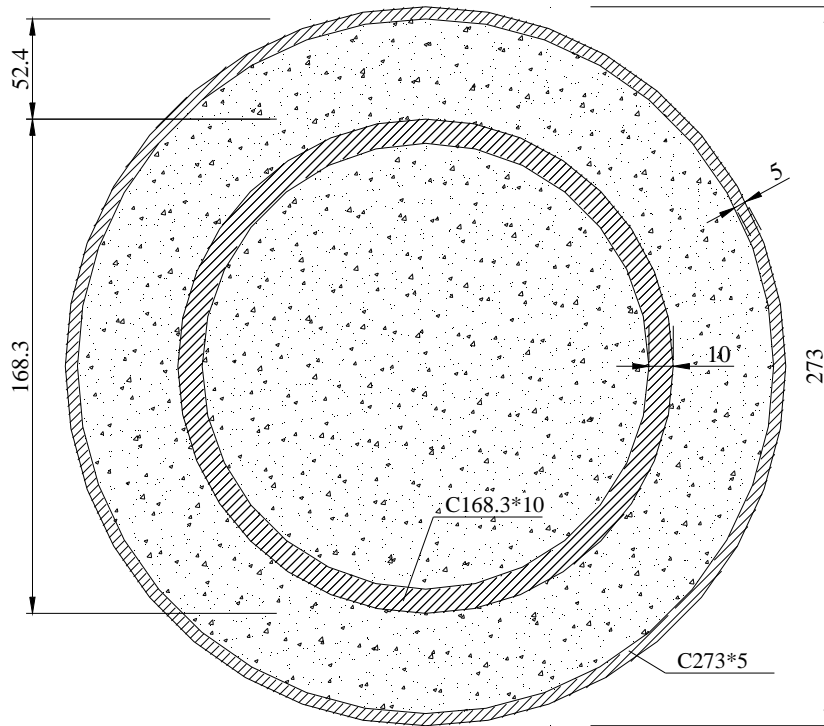

Figure A2.60. Cross-section of profile 5
*Profile 5* (Figure A2.60): External profile: Circular hollow section 273 x 5
Profile 5 (Figure A2.60)